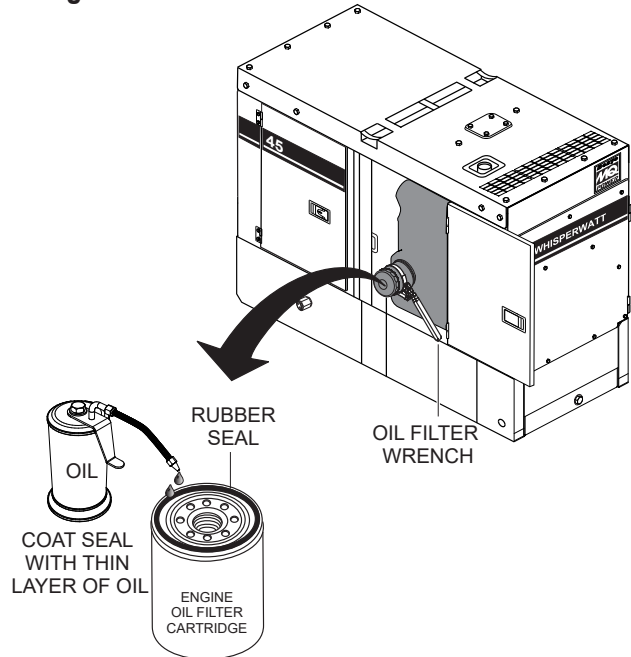

Figure 71. Oil Filter Replacement
2. Using an **oil filter wrench** (Figure 71), remove the **engine oil filter**.
3. Coat the rubber seal (gasket) surface of the oil filter (Figure 71) with clean 15W-40 engine oil.